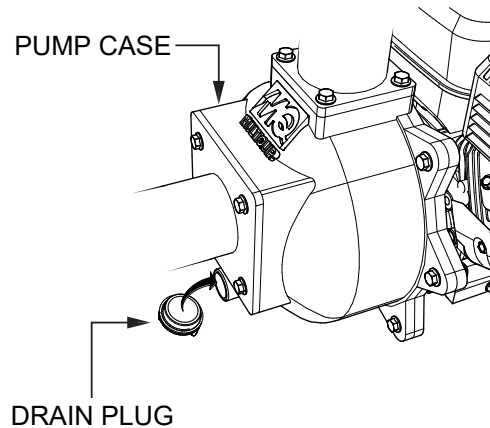

Figure 30. Reinstall The Drain Plug
9. Once fluid has stopped draining, reinstall the **pump drain plug** (Figure 30) on the pump end.